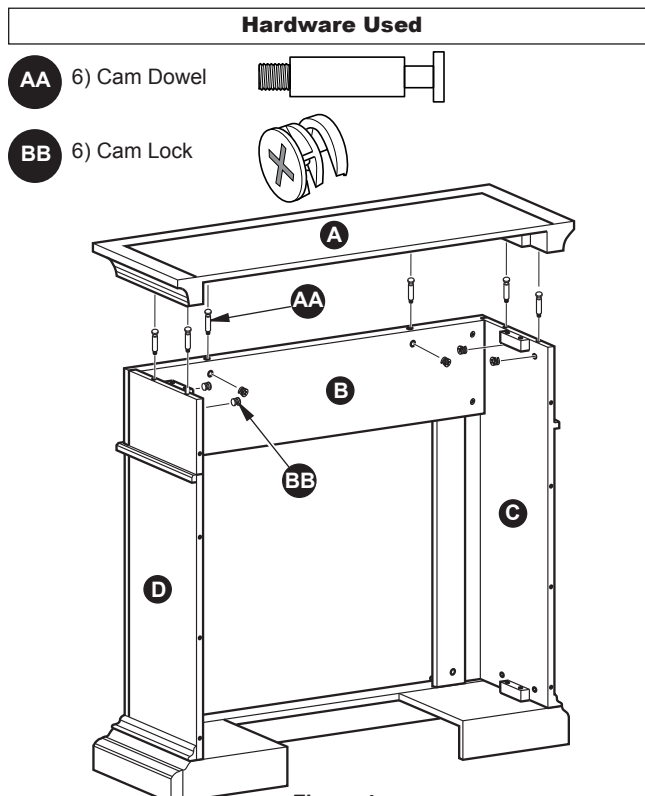

Figure 4
4. Insert Cam Locks (BB) into assembled frame (B,C,D). Screw Cam Dowels (AA) into Top (A). Attach Top (A) into assembled frame by tightening the Cam Locks (BB) as shown in Figure 4.